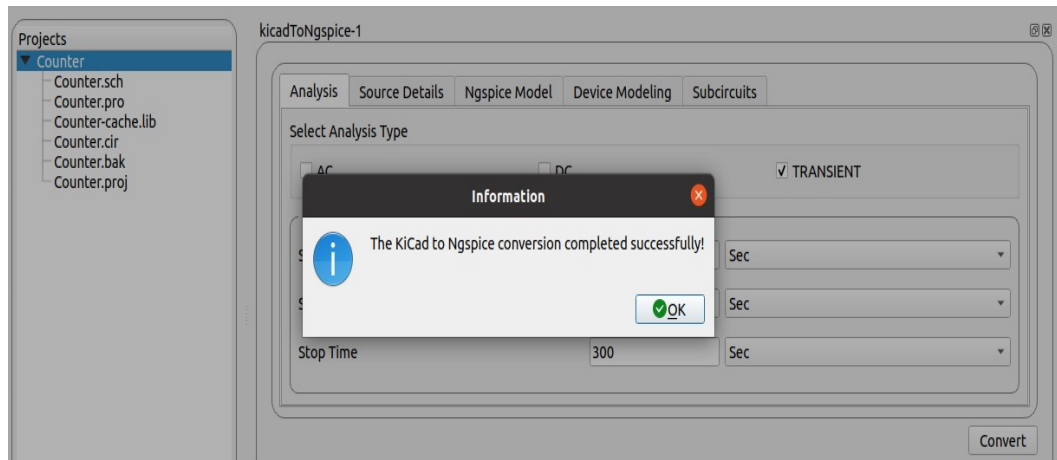

Figure 11.35: KiCad to Ngspice conversion
3. In this counter example, no device modeling and sub-circuit build up is required. Now click on the **Convert** button as shown in Fig. 11.35. This will convert KiCad schematic into Ngspice code i.e it creates the simulation compatible netlist.